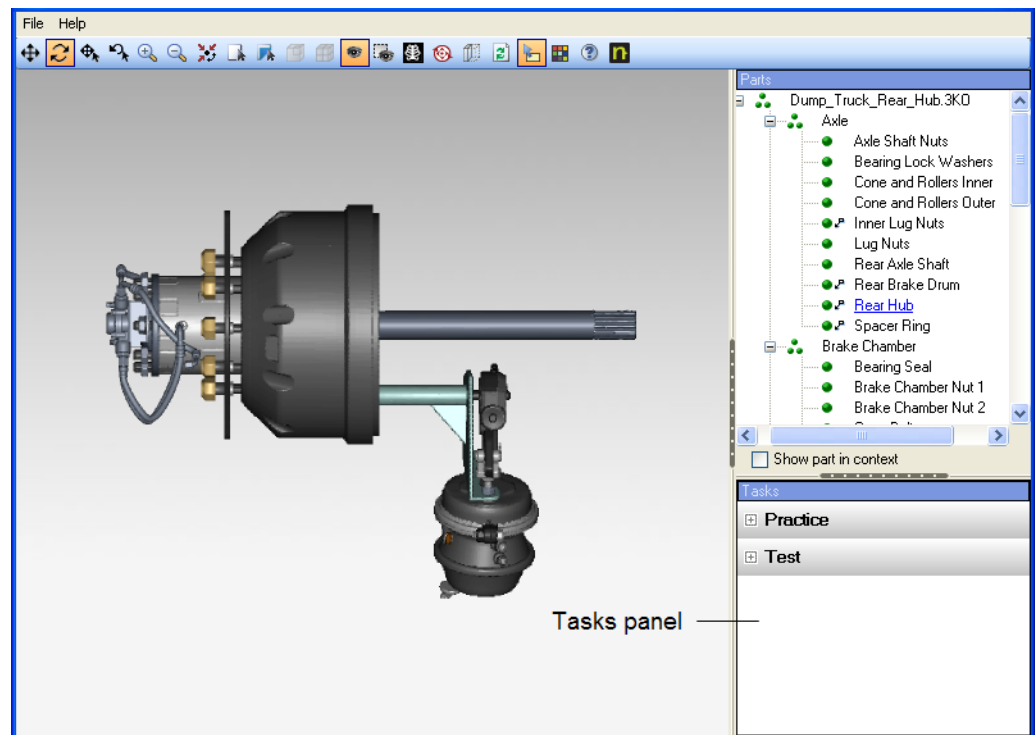
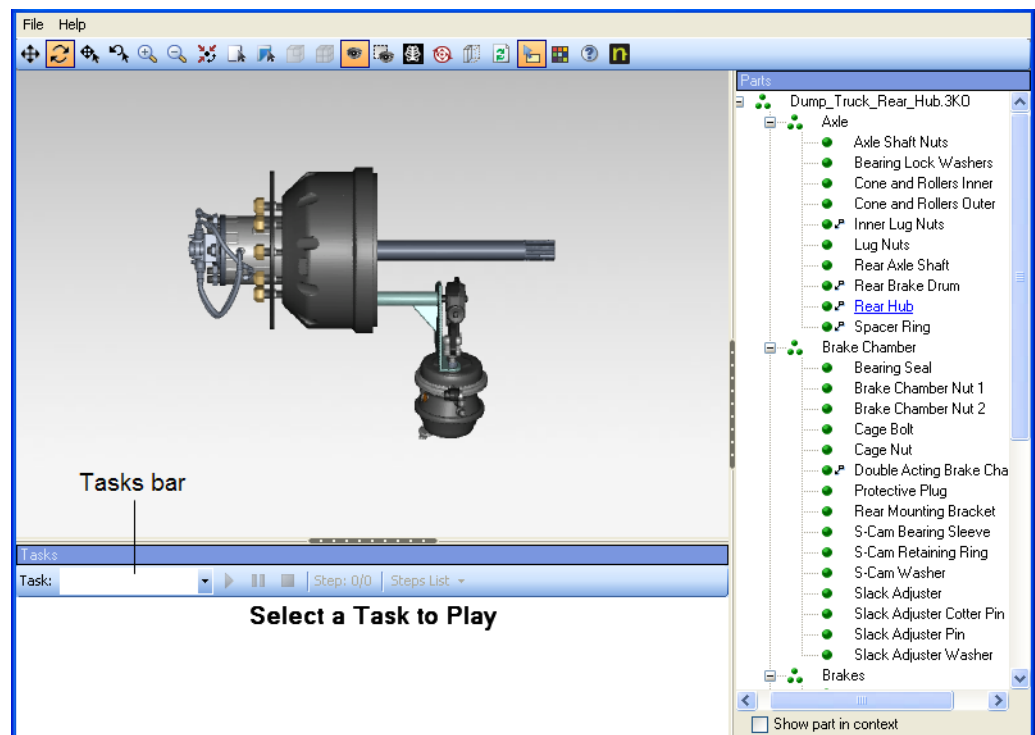

Figure 2.13 Select tasks from the Tasks panel, if included.
Figure 2.14 Select tasks from the Tasks bar, if included.
- 1 Depending on how Viewer is configured, select the task that you want to practice from the **Tasks** panel (see Figure 2.13) or the **Tasks** bar (see Figure 2.14).